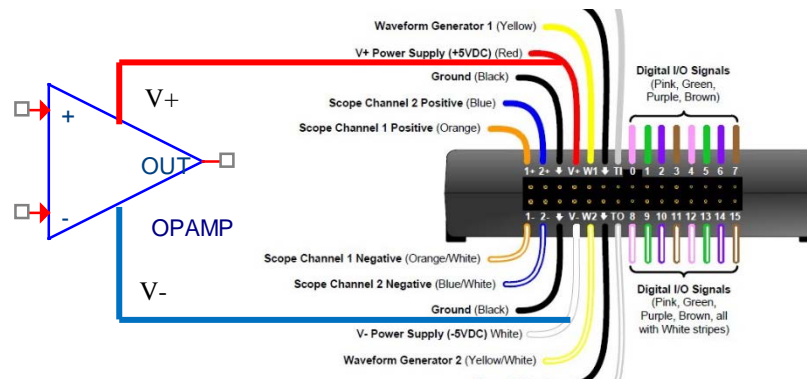

Figure A-2.
*Powering the op-amp:* The two DC sources, (labeled as  $V+$  and  $V-$ , but also often labeled as  $\pm V_{CC}$ ), that provide power to the op-amp are typically set to have an equal magnitude but opposite sign with respect to the ground of the circuit. This enables the circuit to handle an input signal which oscillates around  $0V$ , like most of the signals we use in this course. (Note the signs on the sources in the circuit above.) The schematic in Figure A-2 shows a standard  $\pm V_{CC}$  configuration for op-amps. The schematic symbols for a battery are used in this schematic to remind us that these supplies need to be a constant DC voltage. They are not signal sources.